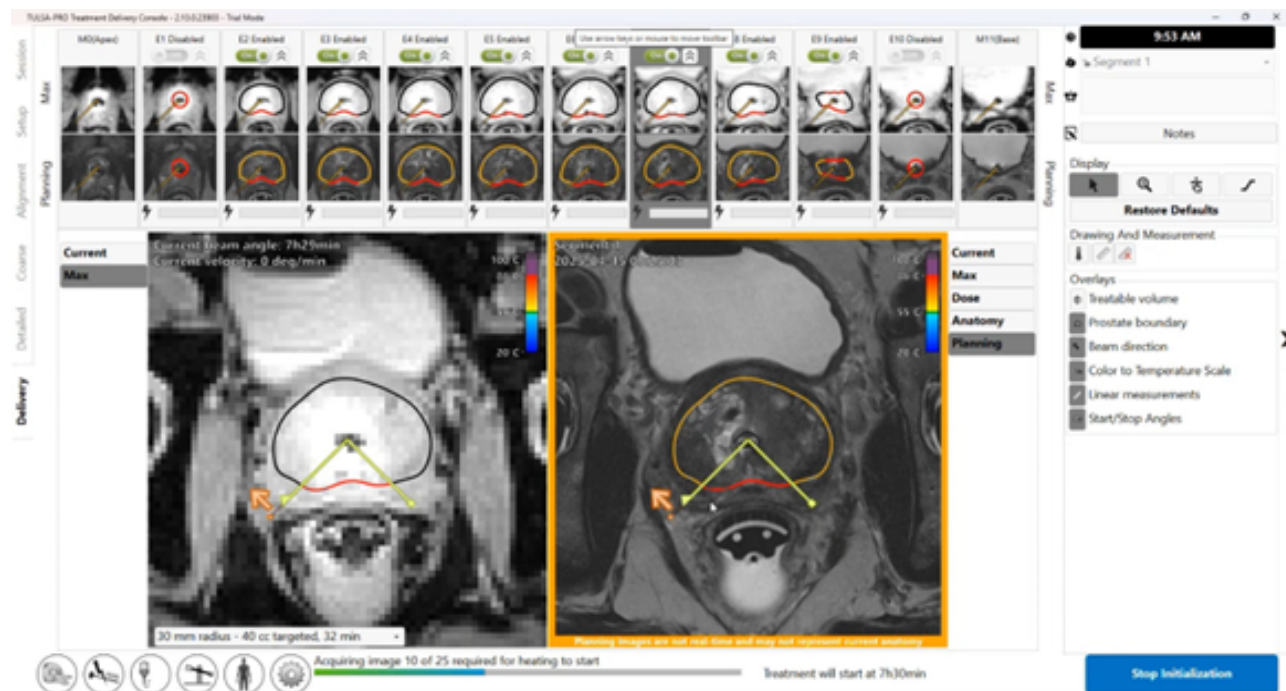
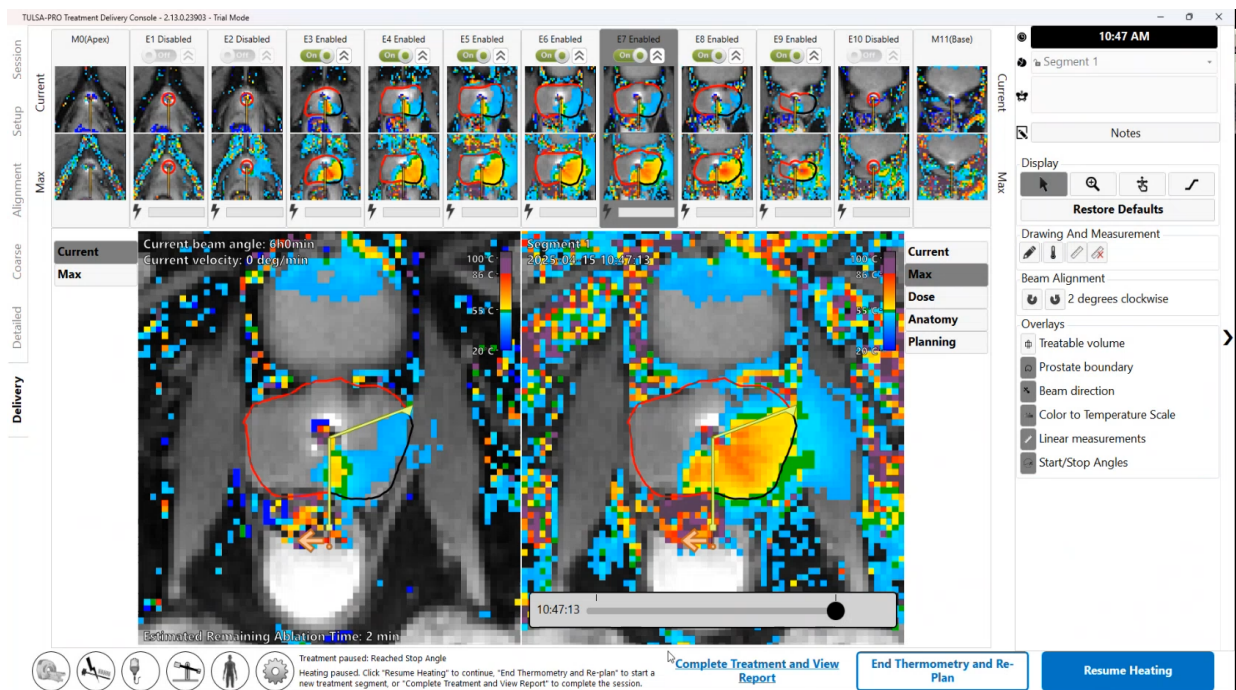

Figure 47: Ultrasound heating has begun
Figure 53: Delivery workspace with treatment and heating paused
Radiologist: After receiving 25 thermometry dynamics, heating begins (*Figure 47*). Throughout the ablation, actively monitor real-time treatment images on all slices, ensuring that:
**Radiologist:** At any time during Delivery, click **Pause** in the bottom-right corner of the screen (see *Figure 47*). While in the paused state, all heating from the UA is suspended while thermometry acquisition continues (*Figure 53*).